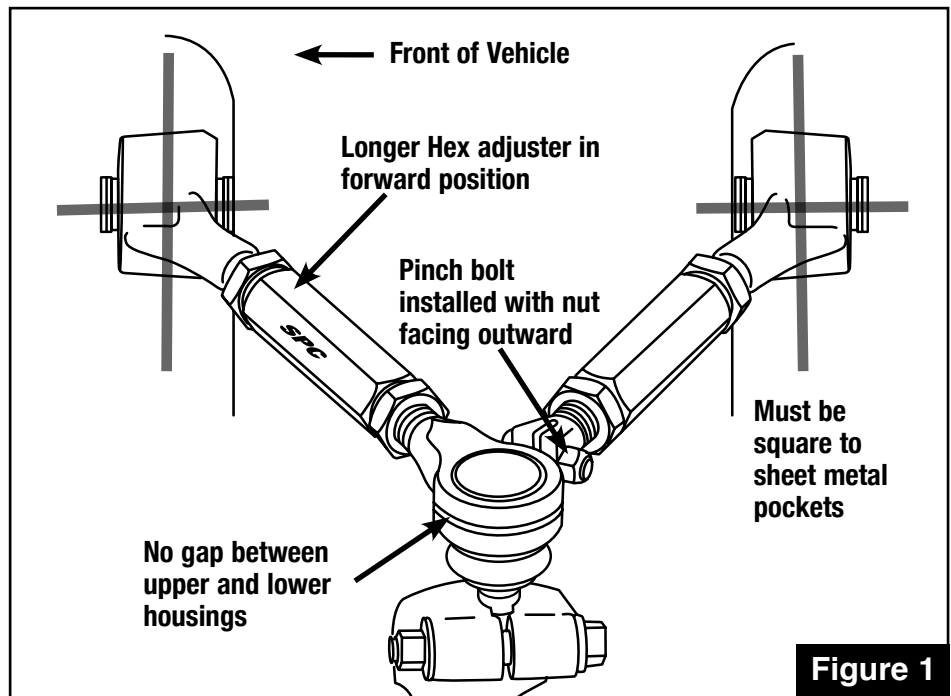

Figure 1
5. Adjust SPC arm to approximately same geometry as OE arm. Longer hex adjuster should be in forward position on each arm. Verify control arm pinch bolt is arranged with nut facing outward, *see Figure 1*.
6. Install SPC adjustable control arm using OE bushing hardware. Inboard bushing housing should be aligned square to bushing pockets, *see Figure 1*.